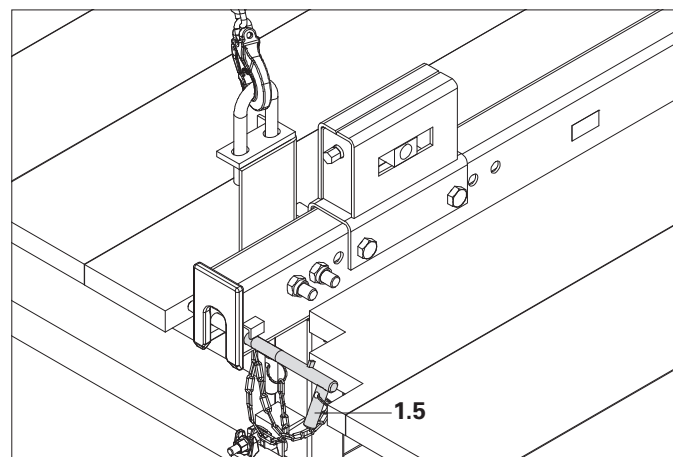

Fig. B1.20
3. Remove safety bolts (1.5). (Fig. B1.20)